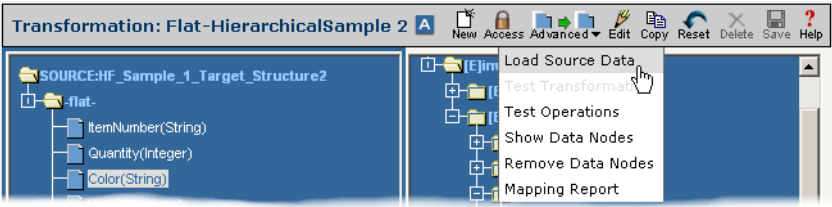

Figure 18-1. To load actual source data into your transformation map, select "Test Source Data" from the **Advanced** menu icon.
- 1 Select "Test Source Data" from the **Advanced** toolbar item (see Figure 18-1 below).